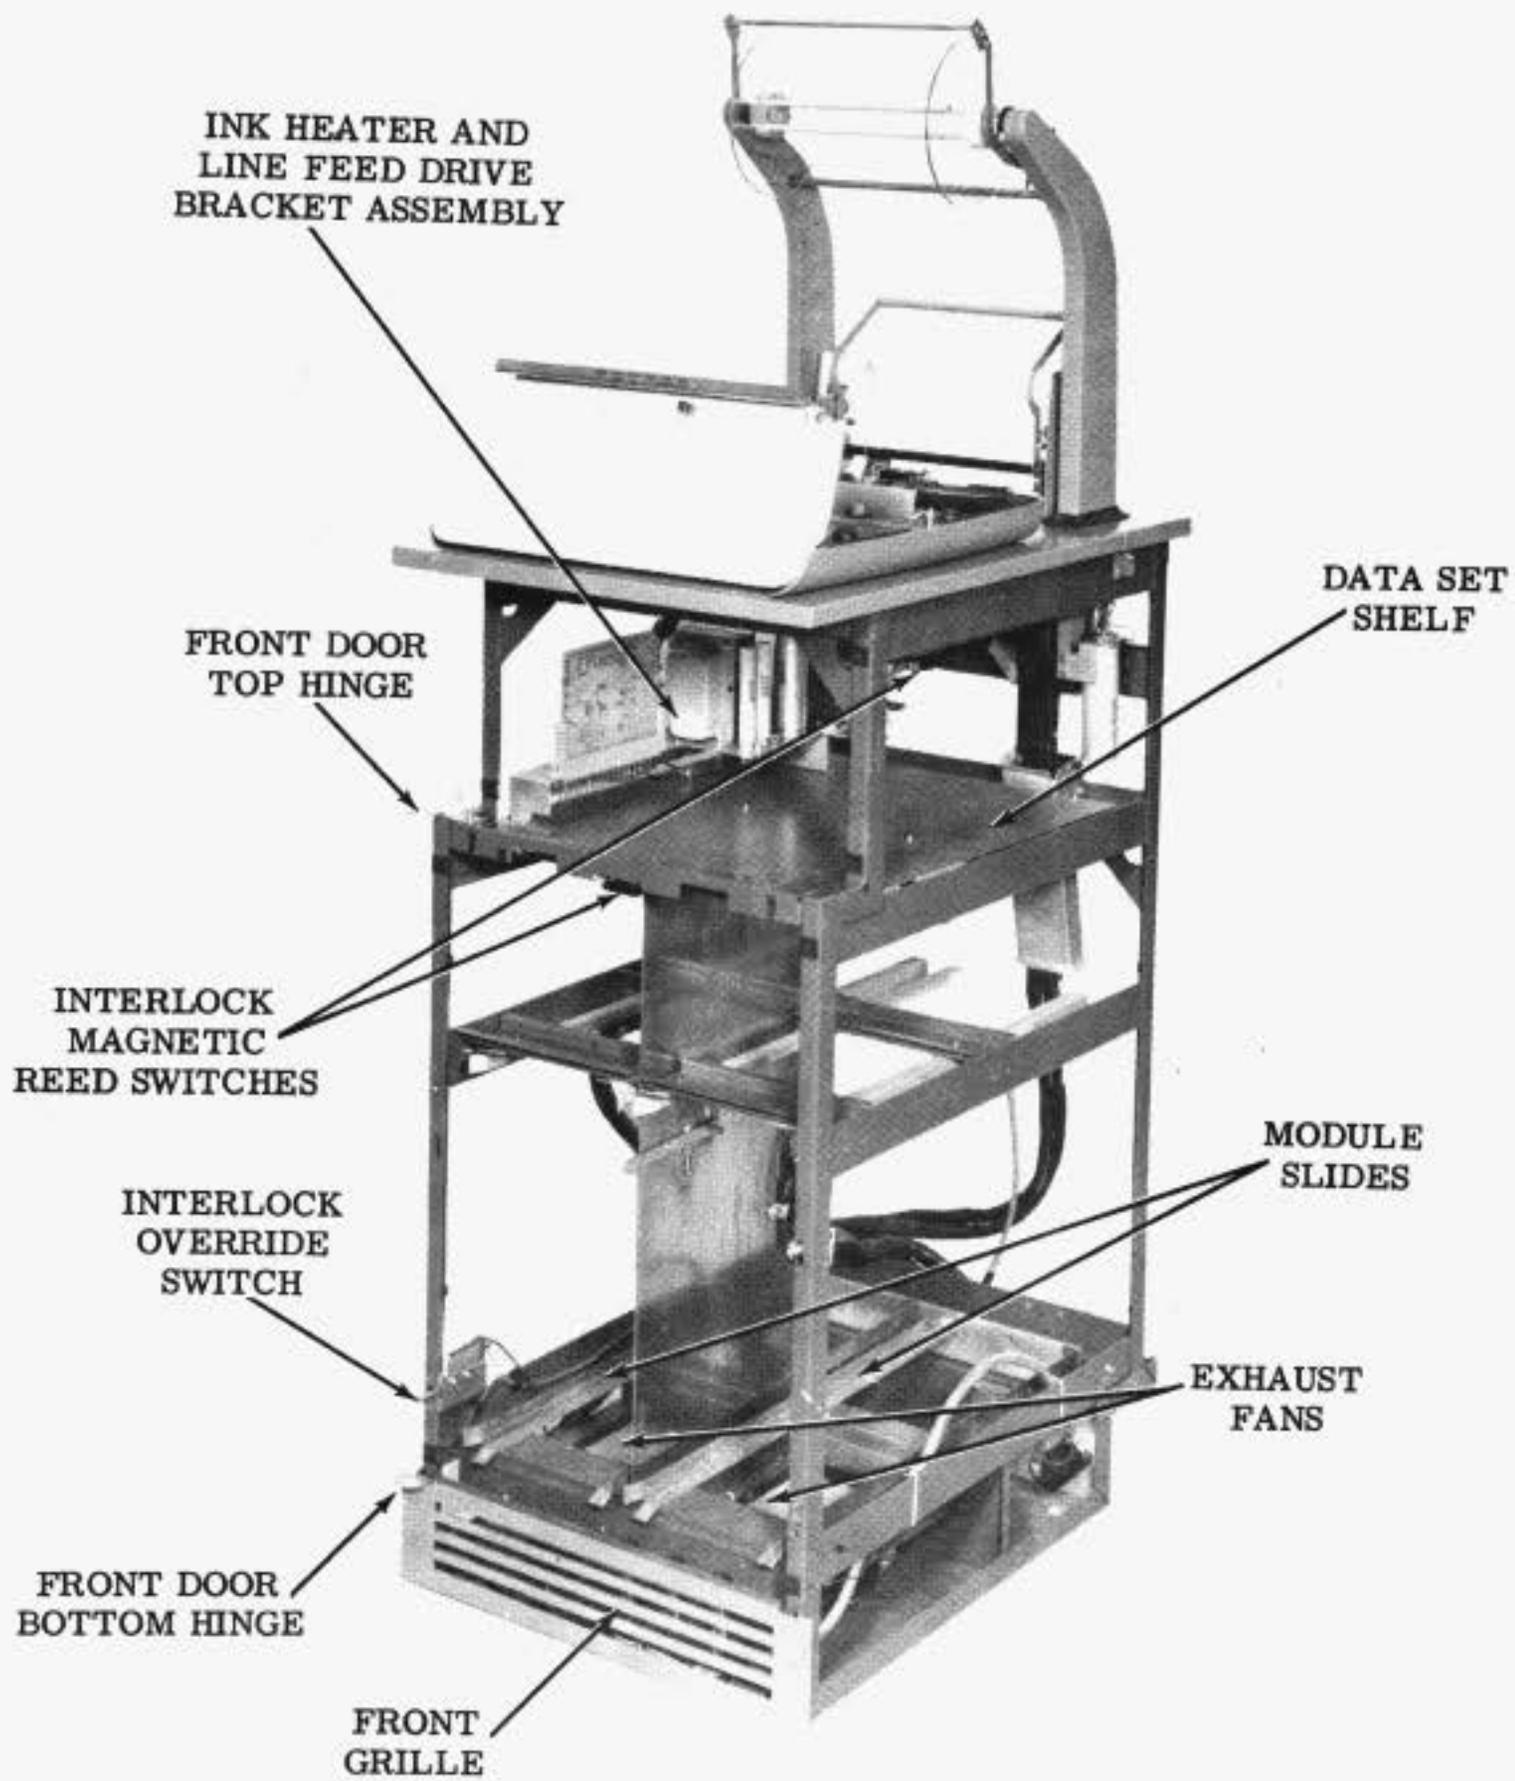

Figure 4 - Cabinet Frame Assembly
1.01 This section provides the description and principles of operation for the cover, base, cabinet, paper unwinder, and paper winder as used in the INKTRONIC Receive Only Page Printer Set (RO). It is reissued to place the section in standard format and to show changes of the cabinet frame assembly (Figures 4 and 6). These changes are indicated by bracketed arrows. Refer to Section 592-820-701TC for the adjustment and lubrication procedures of the units described in this section.